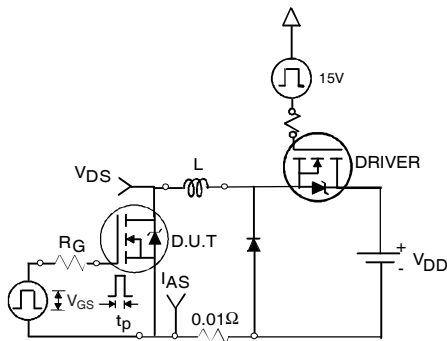

Fig 22a. Unclamped Inductive Test Circuit
3. Equation below based on circuit and waveforms shown in Figures 22a, 22b.